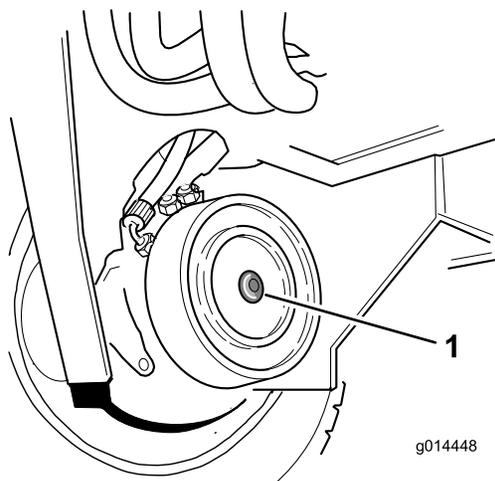

Figure 61
5. Tighten the setscrew into the threaded hole in the brake piston until the brake is released (Figure 61).